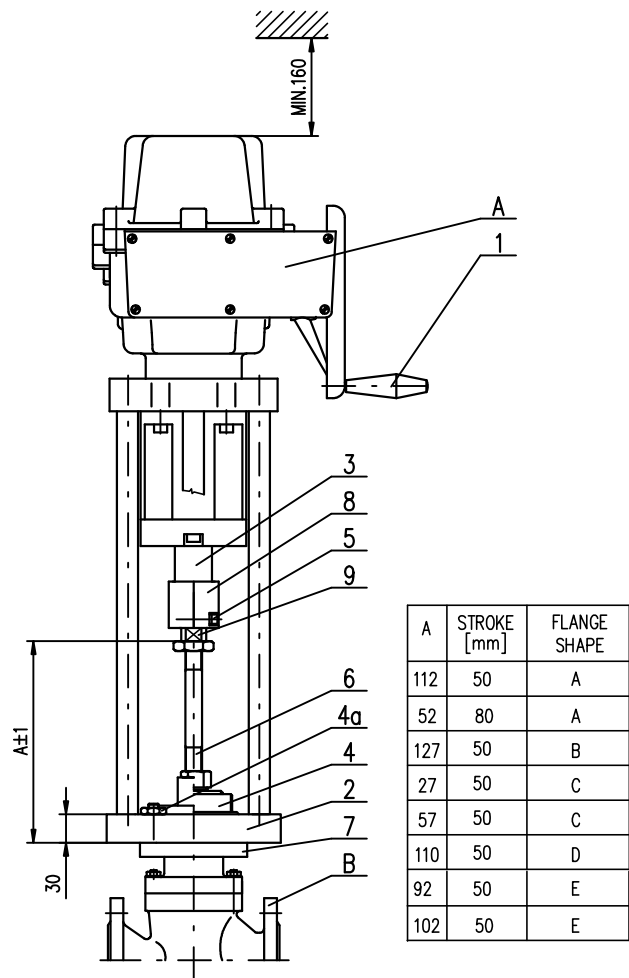

Fig.2
- Set the actuator (A) and the valve (B) to the position "closed".
- Loosen and unscrew two screws (5) on the actuator shaft (3) and disconnect the coupling clamping parts (8)
- Screw the coupling nut (9) onto the valve output shaft (6) (max. 28mm) to have an allowance between the coupling nut (9) and the actuator shaft (3) after the actuator is sat on.
- Place the actuator (A) onto the valve (B) and fix the actuator slightly with the screws (4a), or with the central nut (4) (according to shape of connecting flange of EA) in the way you be able to move it.
- By turning hand wheel (1) move end shaft EA (3) toward thread coupling (8) screwed onto valve output shaft (6) (or unscrew thread coupling)
- Put the clamping parts of the thread coupling (8) on, and tighten the both coupling screws (5) to have the coupling nut able to rotate
- Tighten the screws (4a), or central nut (4) with the cross system to fasten the actuator (2) and valve (7) flanges.
- Check the connection diameters in accordance with the Fig. 2.
- Unscrew the coupling nut (9) by one more revolution (to create the pre-stress against the valve seat), and tighten the coupling screws (5) firmly